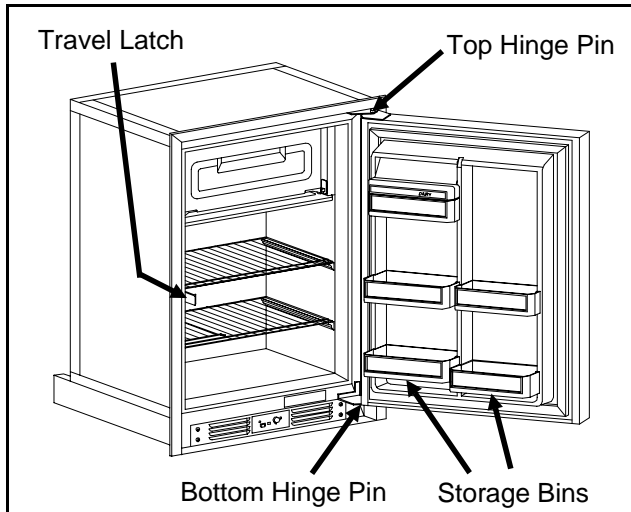

Figure 8
3. Remove all storage bins from the door by lifting up and pulling outward (see Figure 8 for location).
4. Using the slotted screwdriver, remove the top and bottom hinge pins (see Figure 8 for location).